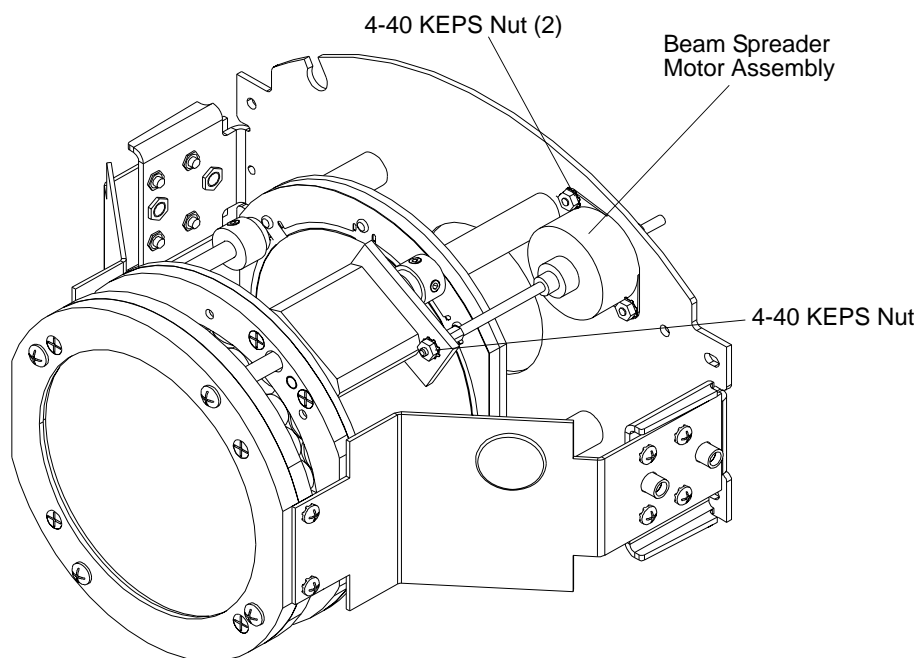

Figure 2-8: Beam Spreader Motor Assembly Replacement
- Step 5. At beam spreader motor assembly, using 1/4" open-ended wrench and pliers, remove one 4-40 KEPS nut from end of motor shaft (as shown in Figure 2-8).